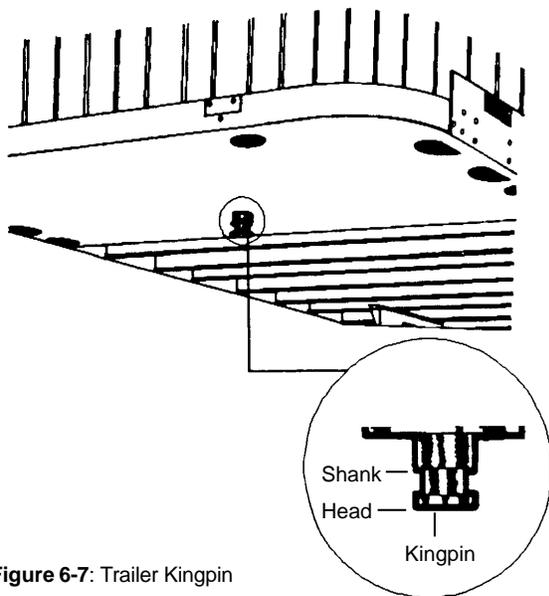

Figure 6-7: Trailer Kingpin
- Go under trailer and look into the back of the fifth wheel. Make sure the fifth wheel jaws have closed around the shank of the kingpin (see Figure 6-7).